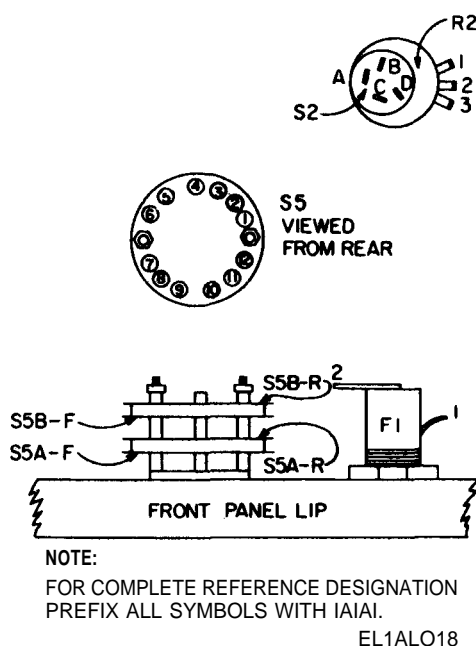

Figure 6-10. Front panel component terminal numbering.
(1) Refer to the schematic diagram of the receiver, figure FO-2 and figures FO-17, FO-18 and FO-19 for assistance in locating components. Pin numbers on components are shown in figures 6-10 and 6-11.
d. Refer to the schematic diagram of the receiver, figure FO-2 and figure 6-10 for assistance in locating components and pin numbers.
(1) Set the multimeter (TS-352/U) to measure resistance. Unless otherwise specified, all measurements are made on the RX1 scale.
(2) Set the receiver controls as specified in table 6-4. Controls not listed have no effect on test.
(3) Reference designators listed in table 6-4 are abbreviated. For complete reference designation, prefix with A1A1.